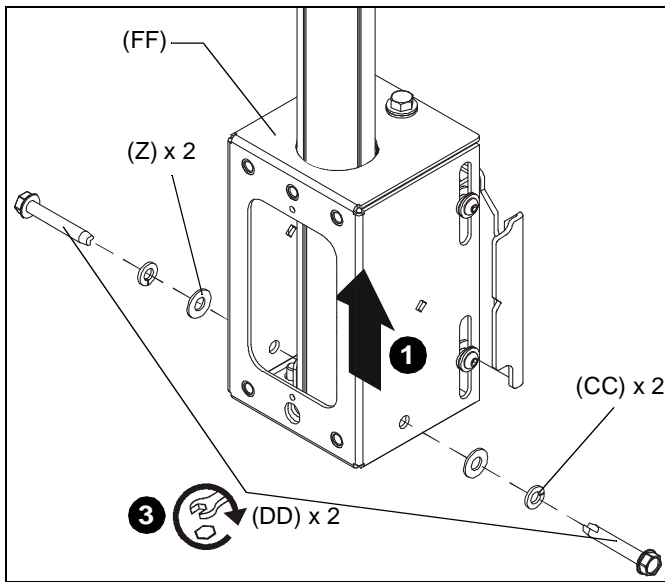

Figure 4
- Slide array head (FF) up from below onto installed column (not included). (See Figure 4)
- Line up holes in sides of array head (FF) with holes in column.
- Install two 5/16" x 2" self-tapping screws (DD) through two 5/16" split washers (CC), two 5/16" flat washers (Z), sides of array head (FF), and into installed column. (See Figure 4)
- Repeat Steps 1 through 3 for remaining array head (FF), assuring that second array head is approximately level with first installed array head.